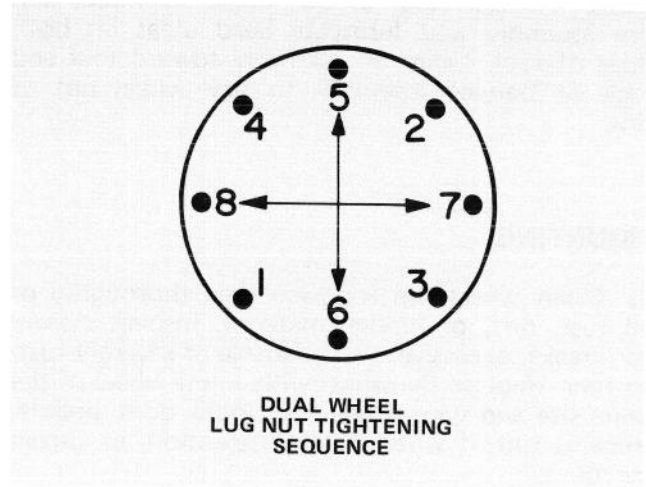

Figure 105
top of bolt circle (Fig. 105) and just snug the top nut.
2. Snug the remaining nuts in a criss-cross pattern to minimize run-out (Fig. 105).